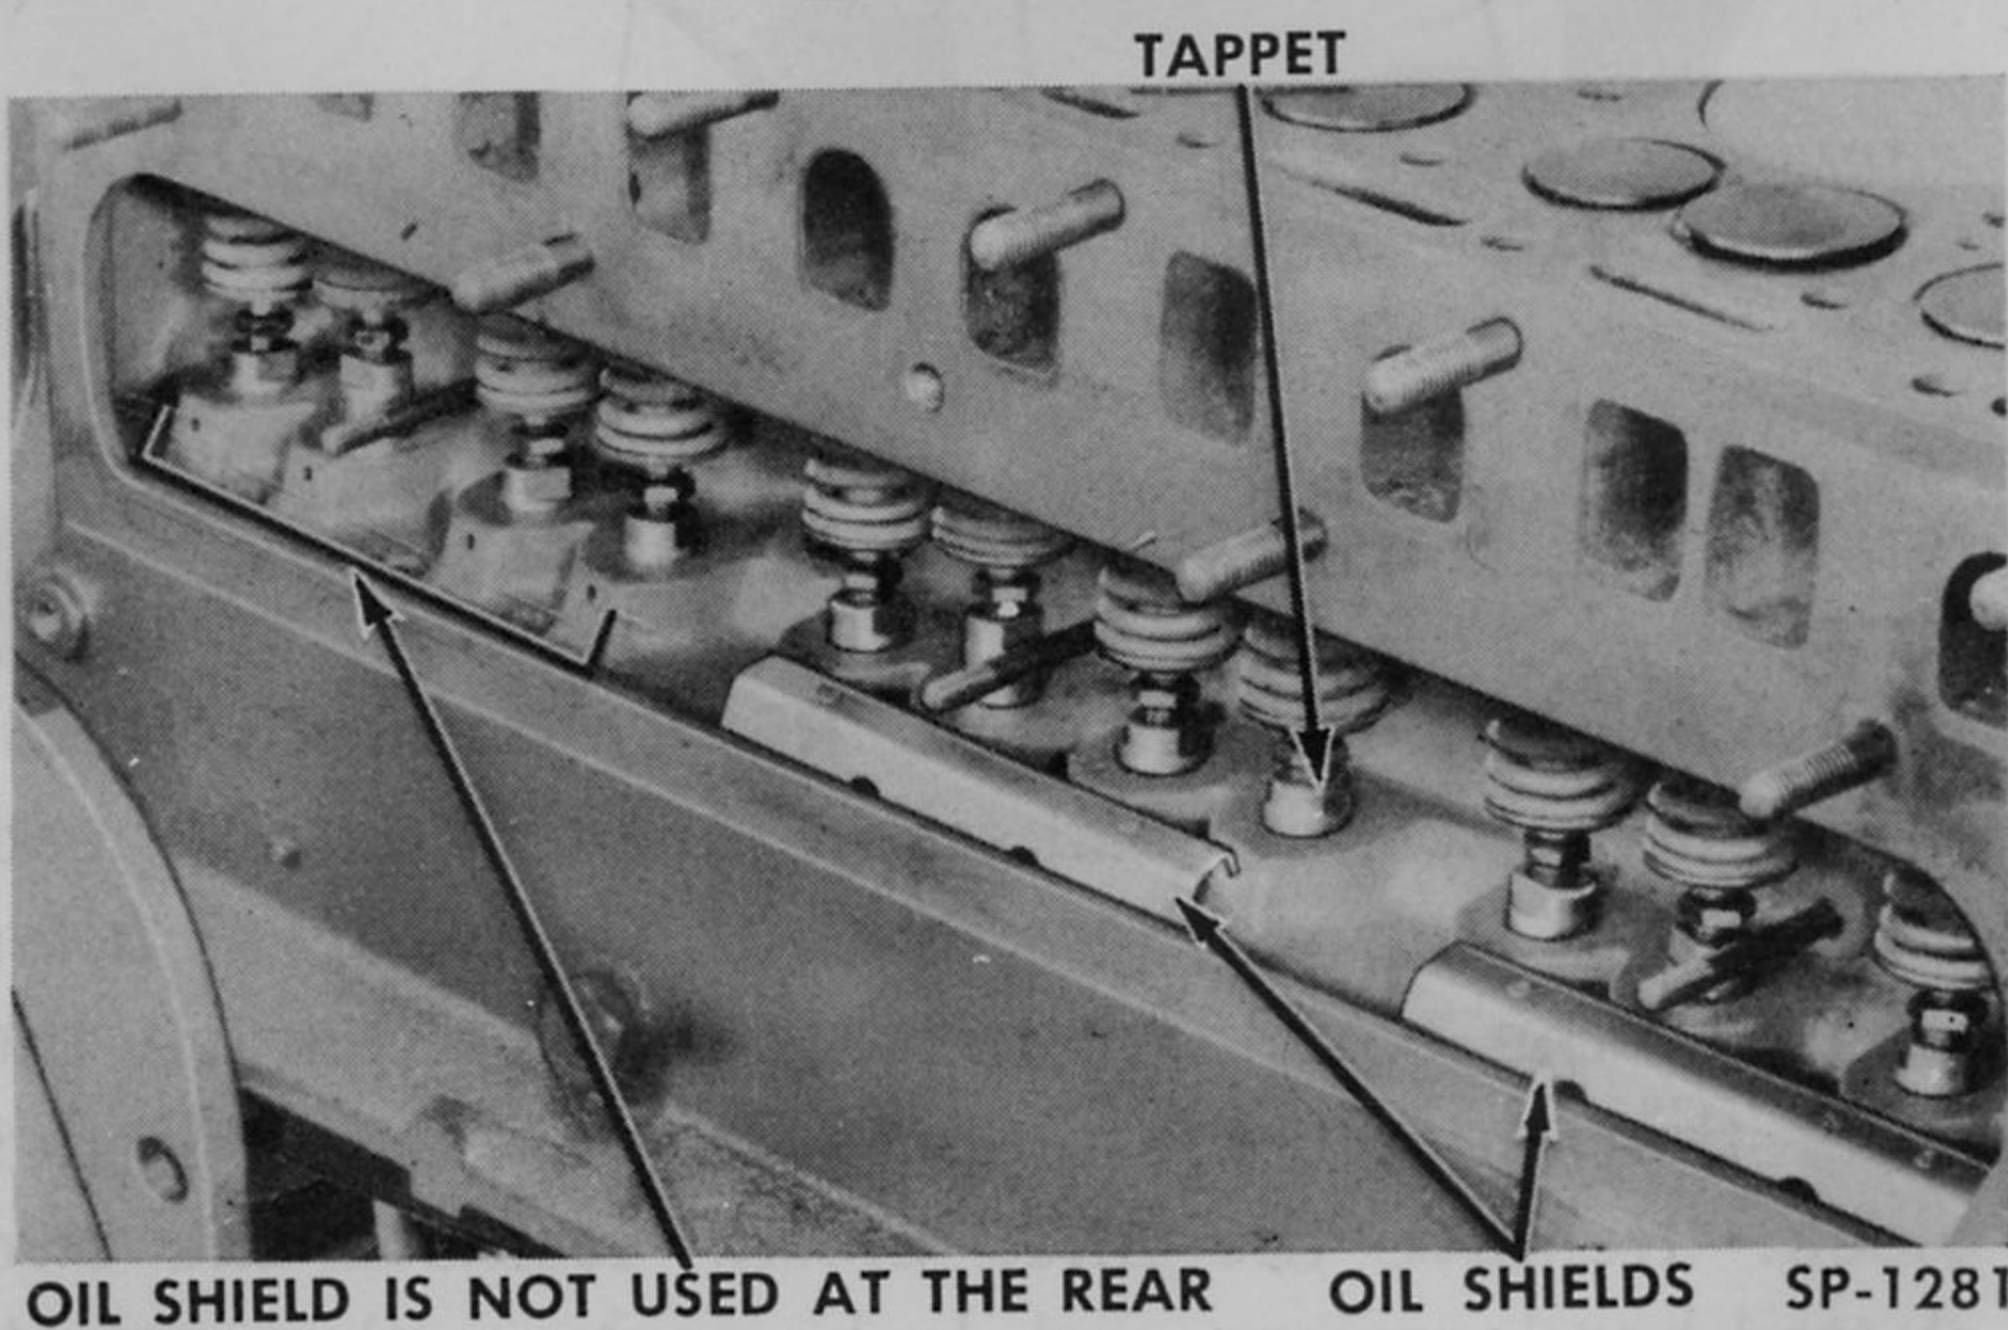

Fig. 22—Valve Tappet Chamber, Tappets and Oil Shields
l. REMOVE VALVES AND SPRINGS. When the engine is installed in the vehicle, access to the valves and springs will require removal of the right front wheel and splash shield access hole cover. Remove the three bolts and gaskets that attach the valve tappet cover to the cylinder block and remove the cover and cover gasket. The two valve tappet chamber oil shields (Fig. 22) are held in position in the tappet chamber by means of spring clips on the underside of each shield. To remove the shields lift them out with the fingers or, if necessary, pry them out with a screwdriver.